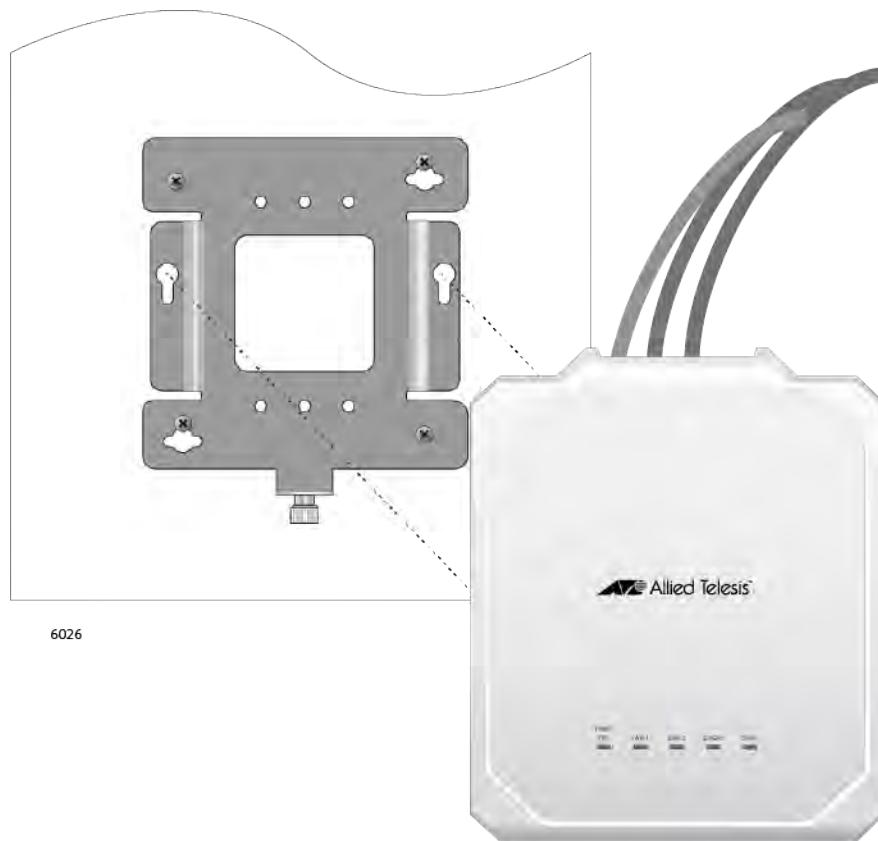

Figure 25. Installing the Access Point on the Mounting Bracket
1. Align the bottom of the access point over the bracket so that the two screws on the bottom of the device fit into the bracket keyholes. Refer to Figure 25. (These are the two access point chassis screws installed in “Pre-fitting the Mounting Bracket on the Access Point” on page 44.)